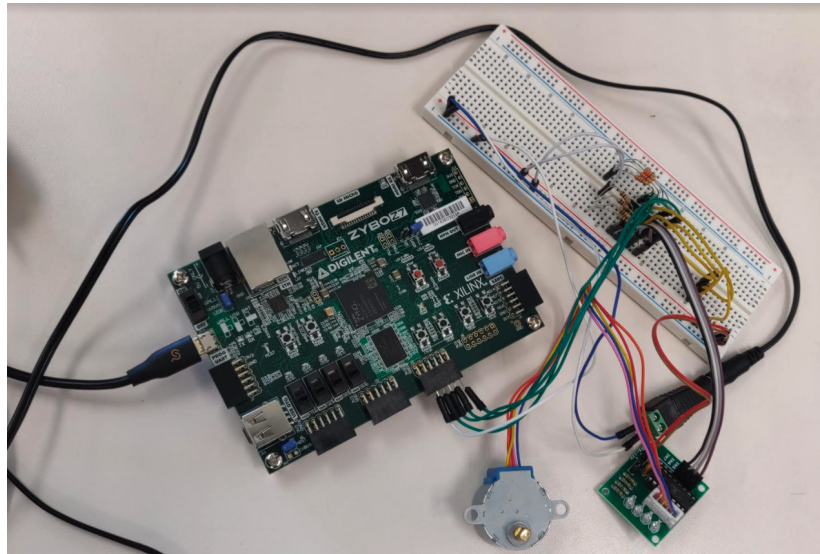

Figure 1: Lab Setup
**Setup:** In this lab, we connect Zybo Z7board with an optoisolation circuit (bridge signal) with ULN2003 driver module, which further connects with the stepper motor. 5V power is also connected to ULN2003 driver module so it could power the stepper motor. The Zybo board is powered by a USB connection to the computer. Our setup and connections are shown in Figure 1. After downloading the project files from EClass, we update the system.mss file BSP settings, to make kernel behaviour tick\_rate from 100 to 1000. We also add a mathematics library to ensure proper compiling of the code [2].